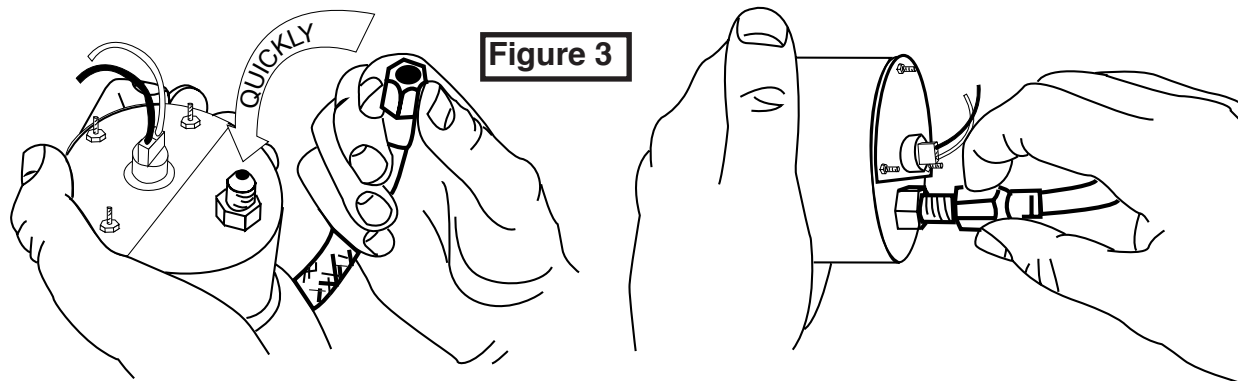

Figure 3
5. While holding the braided tubing up, remove the steel plug and quickly thread the braided tubing onto the gauge. (Be careful not to spill any fluid) See Fig. 3